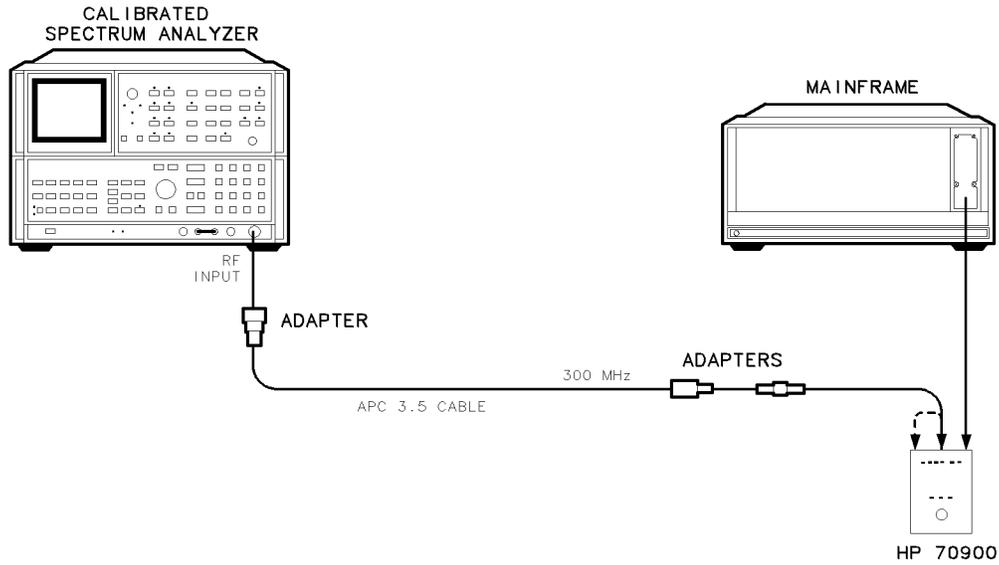

Figure 6-11. Equipment Setup for Adjustment 06. 300 MHz Reference Output Amplitude
1. Place the HP 70900B local oscillator source on an extender module, and connect the equipment as illustrated in Figure 6-11.